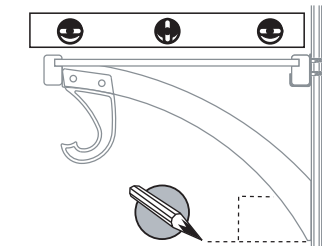

FIG. 6.0
- Place angle bracket square with shelf underside and back wall. Mark hole location and mark line at the bottom of Angle Bracket against wall. Use 3" screw as marking tool (Fig. 6.0).